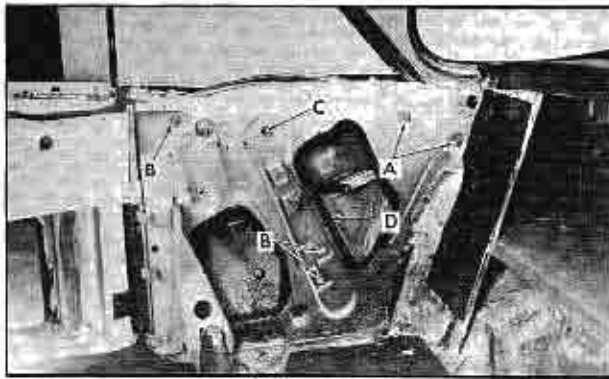

Fig. 3-45 Rear Quarter Window Assembly (6237)
3. To adjust the rear quarter window fore and aft, loosen the rear guide channel screws "A" and the front guide channel screws "B", Fig. 3-45. Then the rear quarter window can be moved fore or aft in the elongated front and rear guide channel attaching screw holes in the inner panel. When the desired position is obtained, retighten the guide channel attaching screws.
3. With rear quarter window in the up position, remove two rear quarter window rear guide attaching screws "A" and remove rear guide from body, Fig. 3-45.
4. With the rear quarter window in the "UP" position, remove the rear quarter rear guide attaching screws, "A", Fig. 3-45.
2. Remove the rear quarter window front guide attaching screws, "B", Fig. 3-45, and carefully remove the front guide from the body, working it through the rear access hole.